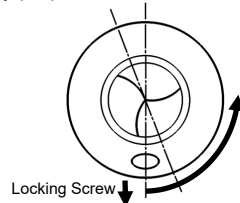

Fig. 4
- Remove locking screw from the bottom of the front cover. (Fig.4)
- Hold the main body, turn the front cover anti-clockwise. Note front cover position for re-assembly purposes. Lift the cover off. (Fig. 4)